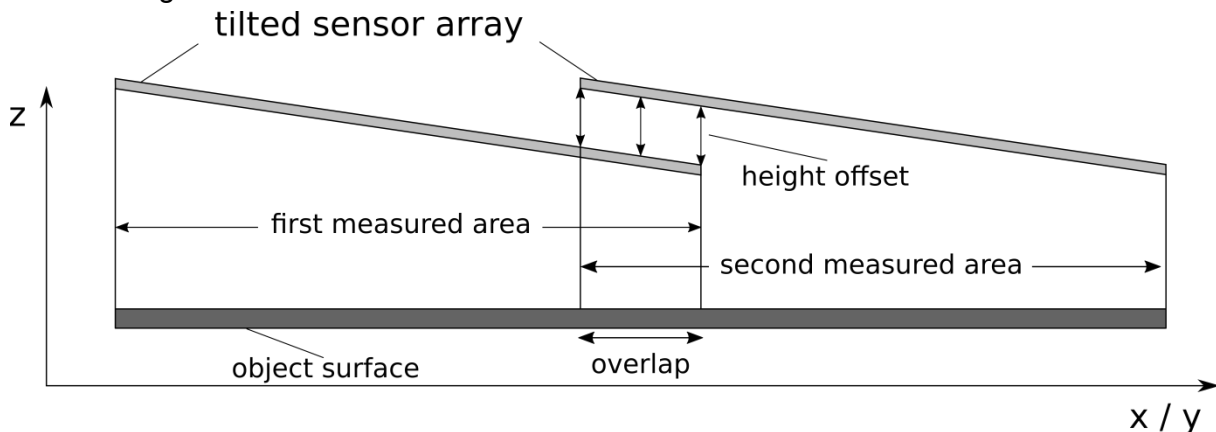
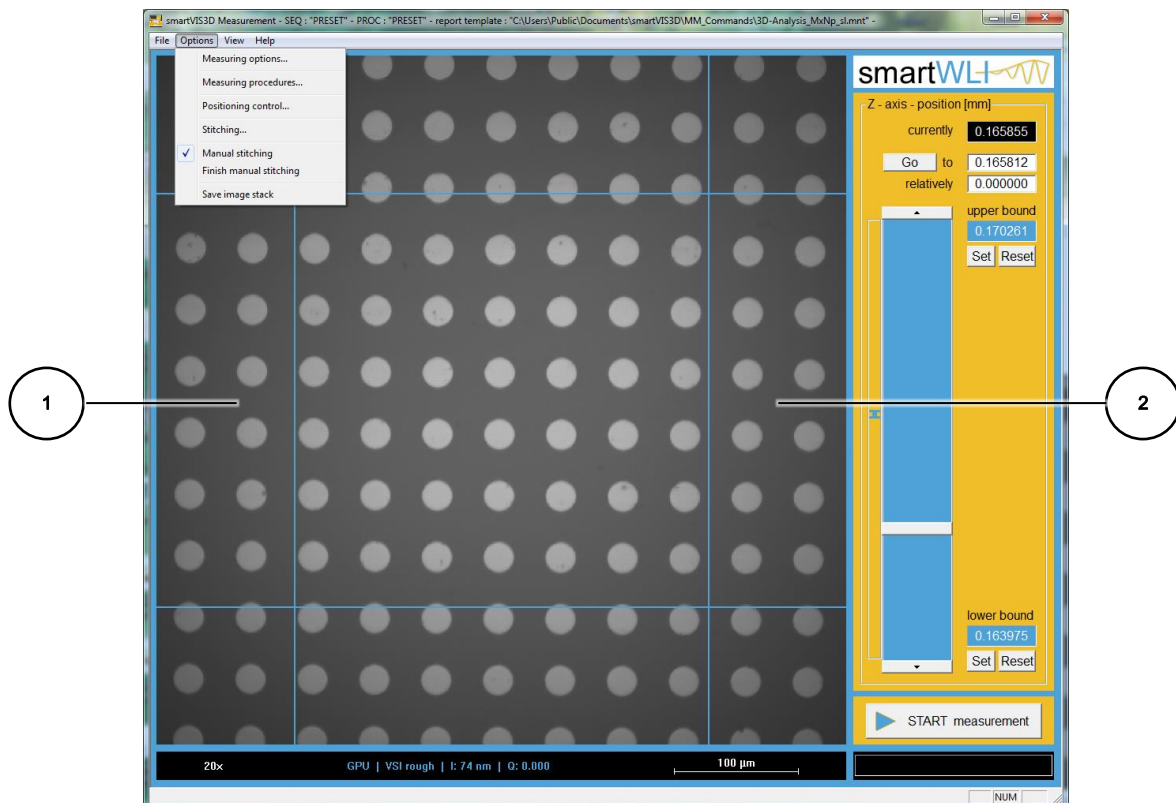

FIGURE 11: FOR CORRECT STITCHING OF TWO INDIVIDUAL MEASUREMENT AREAS REQUIRED AREA OVERLAP
FIGURE 17: MANUAL STITCHING OVERLAP AREAS
To assure correct stitching of surface profiles some overlap of measured areas is required as shown in Figure 11.
In case your device has no motorized but a manual positioning stage you can use the manual stitching guide lines to simplify the measurement process for large objects. To make the guide lines visible in the “View menu” under the menu entry “Auxiliary lines / grids” the menu entry “Manual stitching overlap areas” must be enabled, see section 2.4. Additionally you have select “Manual stitching” menu option in the “Options” menu. The guide lines serves only as orientation guides as they show the overlap areas around the current grid tile area which is in the center of the live view. After enabling the overlap areas you have to manually start measurement procedure at each new grid tile and you have to adjust the position of the stage also manually in such a way that the overlap condition specified by MountainsMap® (approximately 20% of the tile area) and shown in Figure 11 is satisfied. E.g. after executing a measurement procedure on the tile shown in Figure 17 the grid tile on the left of this tile has to be scanned. For that the positioning stage must be moved to the right until the overlap area (1) on the left of the previous tile is on the right (2) of the new grid tile. After scanning as many as necessary tiles click on “Finish manual stitching” menu entry in the “Options” menu. Like in the auto-stitching mode in the measurement results directory you will find grid time number many result files which you can view in the MountainsMap® analysis software.